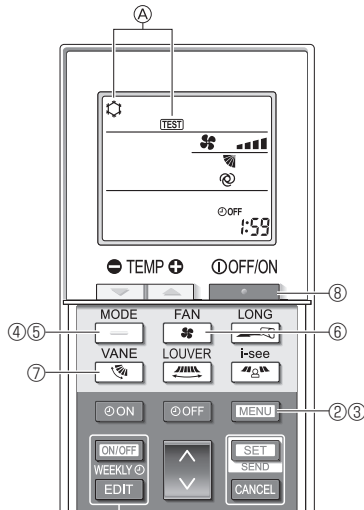

Fig. 7-9
- ① Turn on the power to the unit at least 12 hours before the test run.
- ② Press the **MENU** button for 5 seconds. (Fig. 7-9)
A [TEST] and the current operation mode are displayed. (Fig. 7-9)